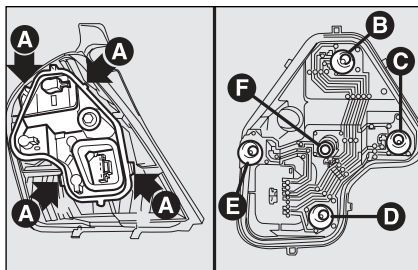

fig. 31
- ☐ press lamp holder catches **A**-fig. 31 outwards and remove it;